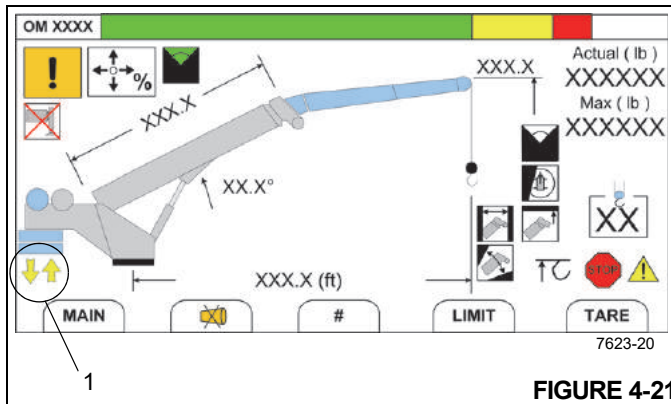

FIGURE 4-21
4. Set display in Operator's Console to the RCL Operating Mode Screen (Figure 4-21) (see *Section 7, Rated Capacity Limiter*).